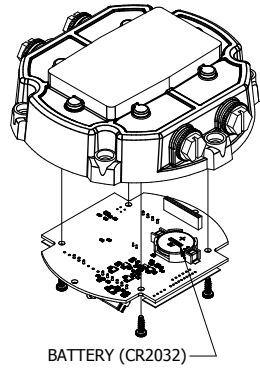

Figure 17
- Remove and replace the coin cell battery (CR2032) on the back side of PC board (see Figure 17).
- Reverse the procedure to reassemble the cover plate to the base. Make sure the cover plate seal is seated before tightening the (6) cover plate screws.